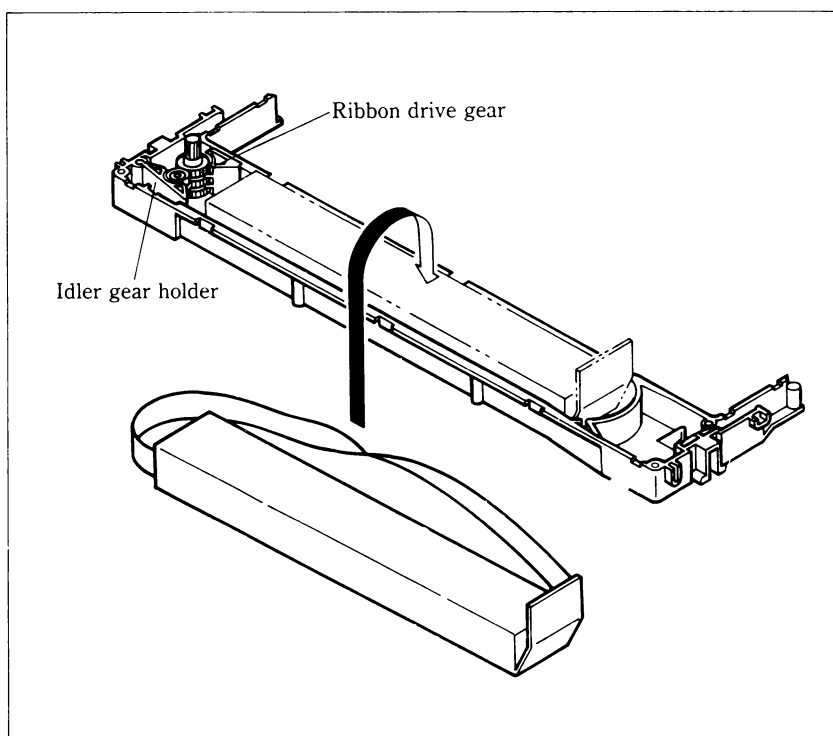

Figure 3-2. Replace the ribbon sub-cassette.
5. Press hard against the end of the idler gear holder to make a space between the holder and the ribbon drive gear, and remove the old ribbon and holder. See Figure 3-2.
7. Take the new ribbon and holder out of the wrapper, remove the adhesive tape on the joint, and place the ribbon holder into the cassette as shown in Figure 3-2.